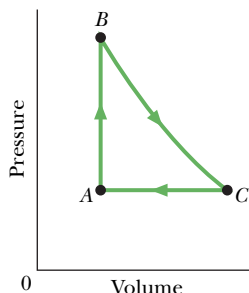

Fig. 18-40 Problem 48.
- 48 **SSM** Gas held within a chamber passes through the cycle shown in Fig. 18-40. Determine the energy transferred by the system as heat during process CA if the energy added as heat Q_{AB} during process AB is 20.0 J, no energy is transferred as heat during process BC , and the net work done during the cycle is 15.0 J.